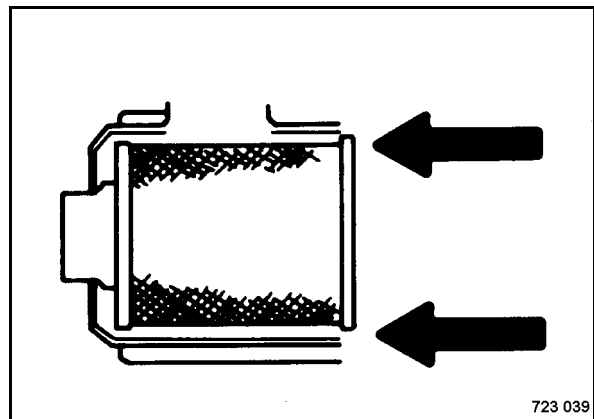

Fig. 188
- Slide the air filter carefully into the housing (Fig. 188).